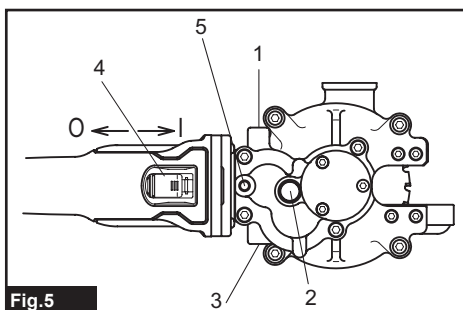

Fig.5
► Fig.5: 1. Handle Position (parallel / left side) 2. Lock Button 3. Handle Position (parallel / right side) 4. Switch 5. Handle Position (vertical / upper side)